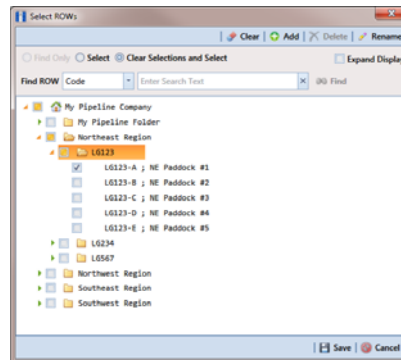

Figure 14-27. Select ROWs
- 1 Select one or more pipeline segments to work with in the *Select ROWs* window. Click  **Save** to close the window (Figure 14-27).
- 1 Select the pipeline segment you want to work with in the *Select ROWs* window. Then click  **Save** to close the window (Figure 14-27, page 644).